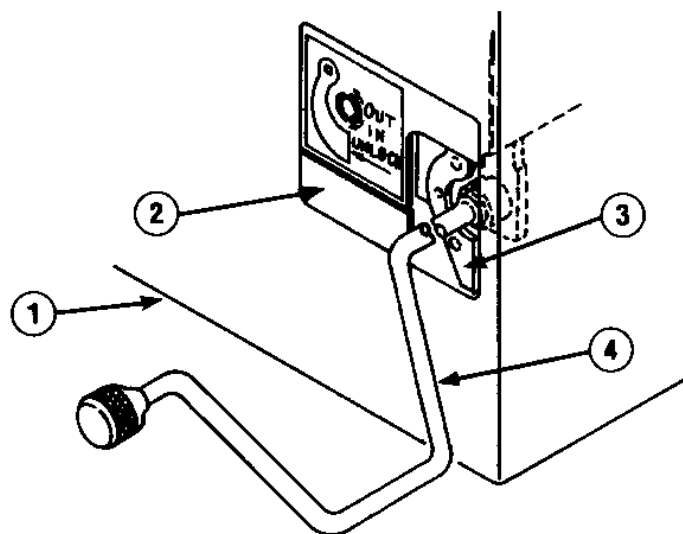

Fig. 4 — Method of Racking Circuit Breaker
Engage racking crank (4, Fig. 4) and push racking unlocking lever (3) to left, then rotate racking crank counterclockwise only until resistance to motion is felt (DO NOT FORCE). If closing springs were left in the "charged" condition, they will automatically discharge.
To rack circuit breaker to "TEST" position, push racking unlocking lever (3, Fig. 4) to left, rotate racking crank approximately 1/4 turn clockwise, then release unlocking lever. Continue cranking until racking mechanism automatically stops at "TEST" position.
When racking circuit breaker to "CONNECTED" position, close compartment door (1, Fig. 4) and insert racking crank (4, Fig 4.) through sliding panel (2, Fig. 4).
### CIRCUIT BREAKER REMOVAL (See Fig. 4)